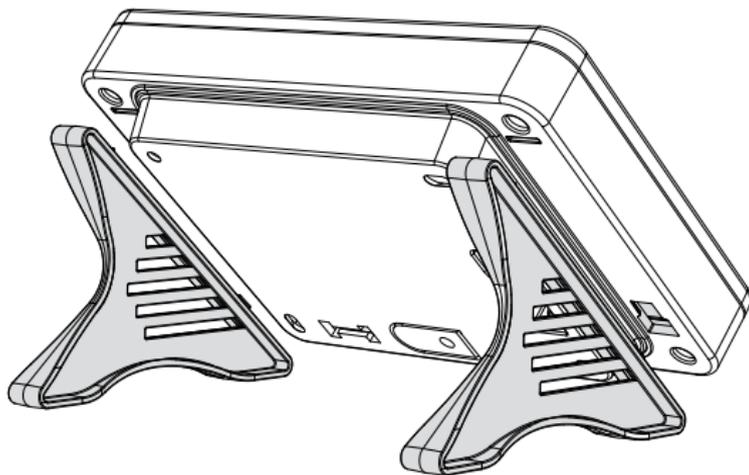

Figure 7: Connecting the Desk Stand Legs
2. Slide the leg upwards until the leg firmly snaps into place. Repeat steps 1 and 2 to install the other leg. See Figure 7.